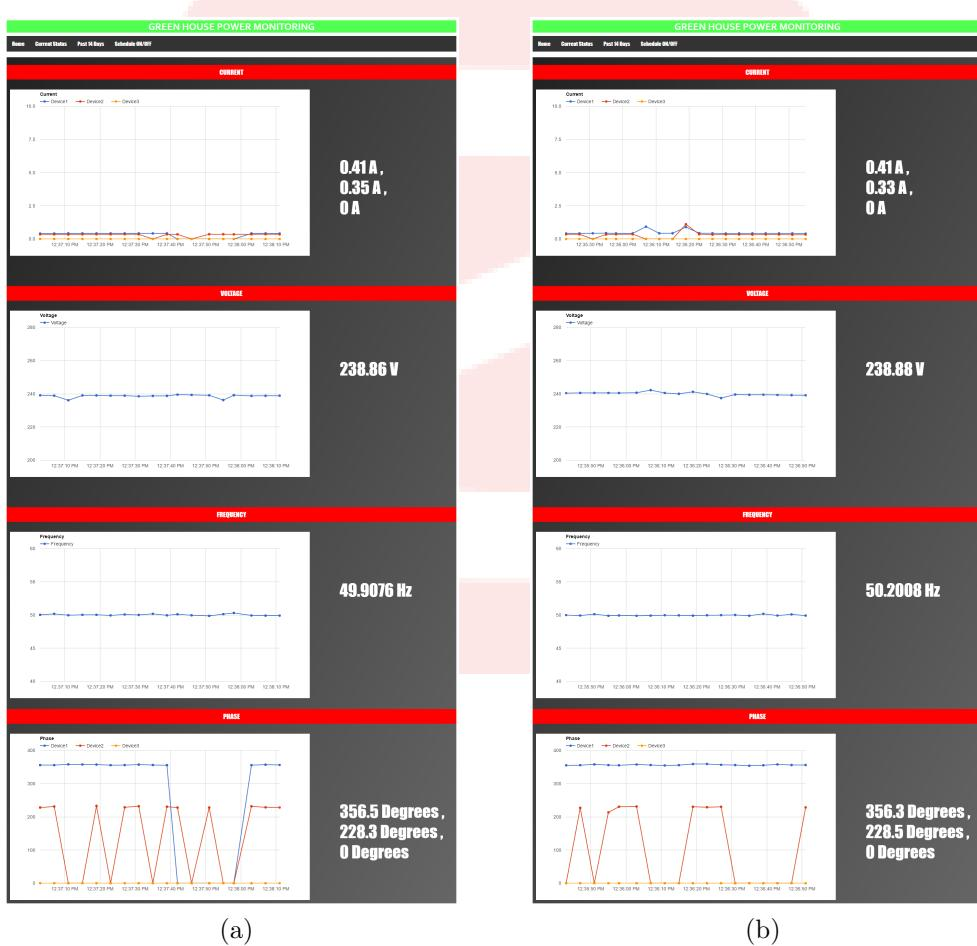

Figure 1.26: Real time updating graph with different stamp
- Next is the current status page. See Figure 1.26.
- Last division represents phase difference(in deg) of the three connected devices. See Figure 1.26 for reference .